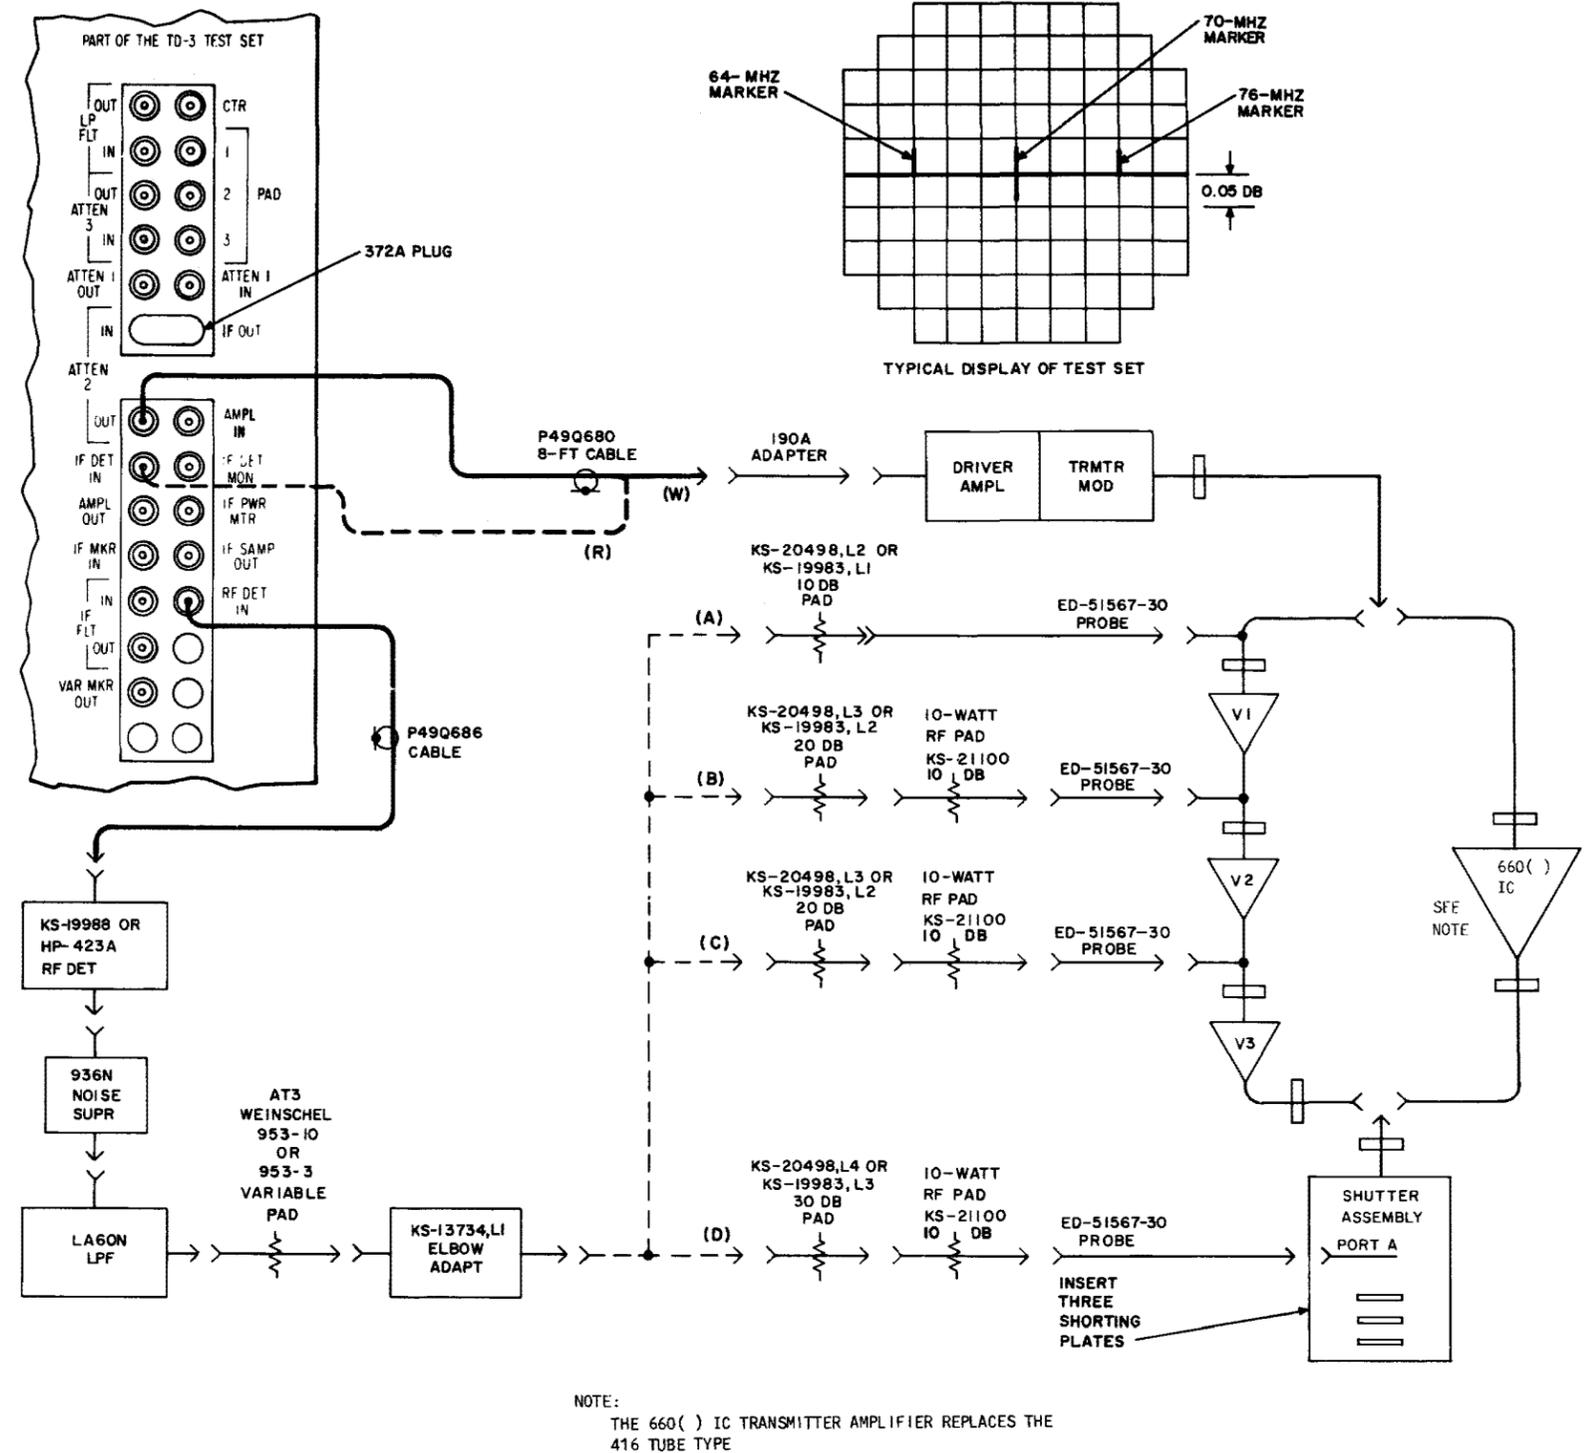

Fig. 7—Overall Transmitter Response Test
PREPARATION FOR TEST (FIG. 7)
- Set ATTEN 2 to 17 dB and connect option (R).
- Adjust the IF SWEEP WIDTH and IF CENTER FREQ controls on the test set control panel to obtain the oscilloscope display as shown in Fig. 7.
- Disconnect option (R) and establish option (W) at the driver amplifier input.